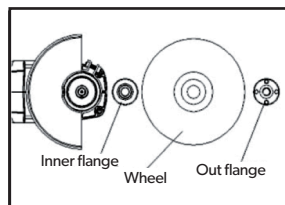

Fig 3
1. Mount the inner flange onto the spindle, fit the wheel/disk on the inner flange and screw the outer flange onto the spindle (Fig 3).